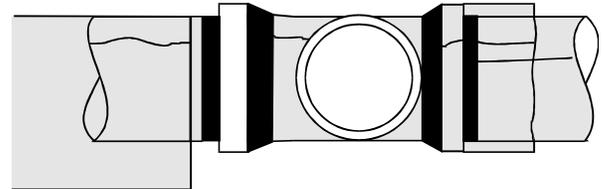

Figure 12
23. Make a second pass with the tape around the circumference of the tee at the end of the sleeve overlapping onto the body (Figure 12).